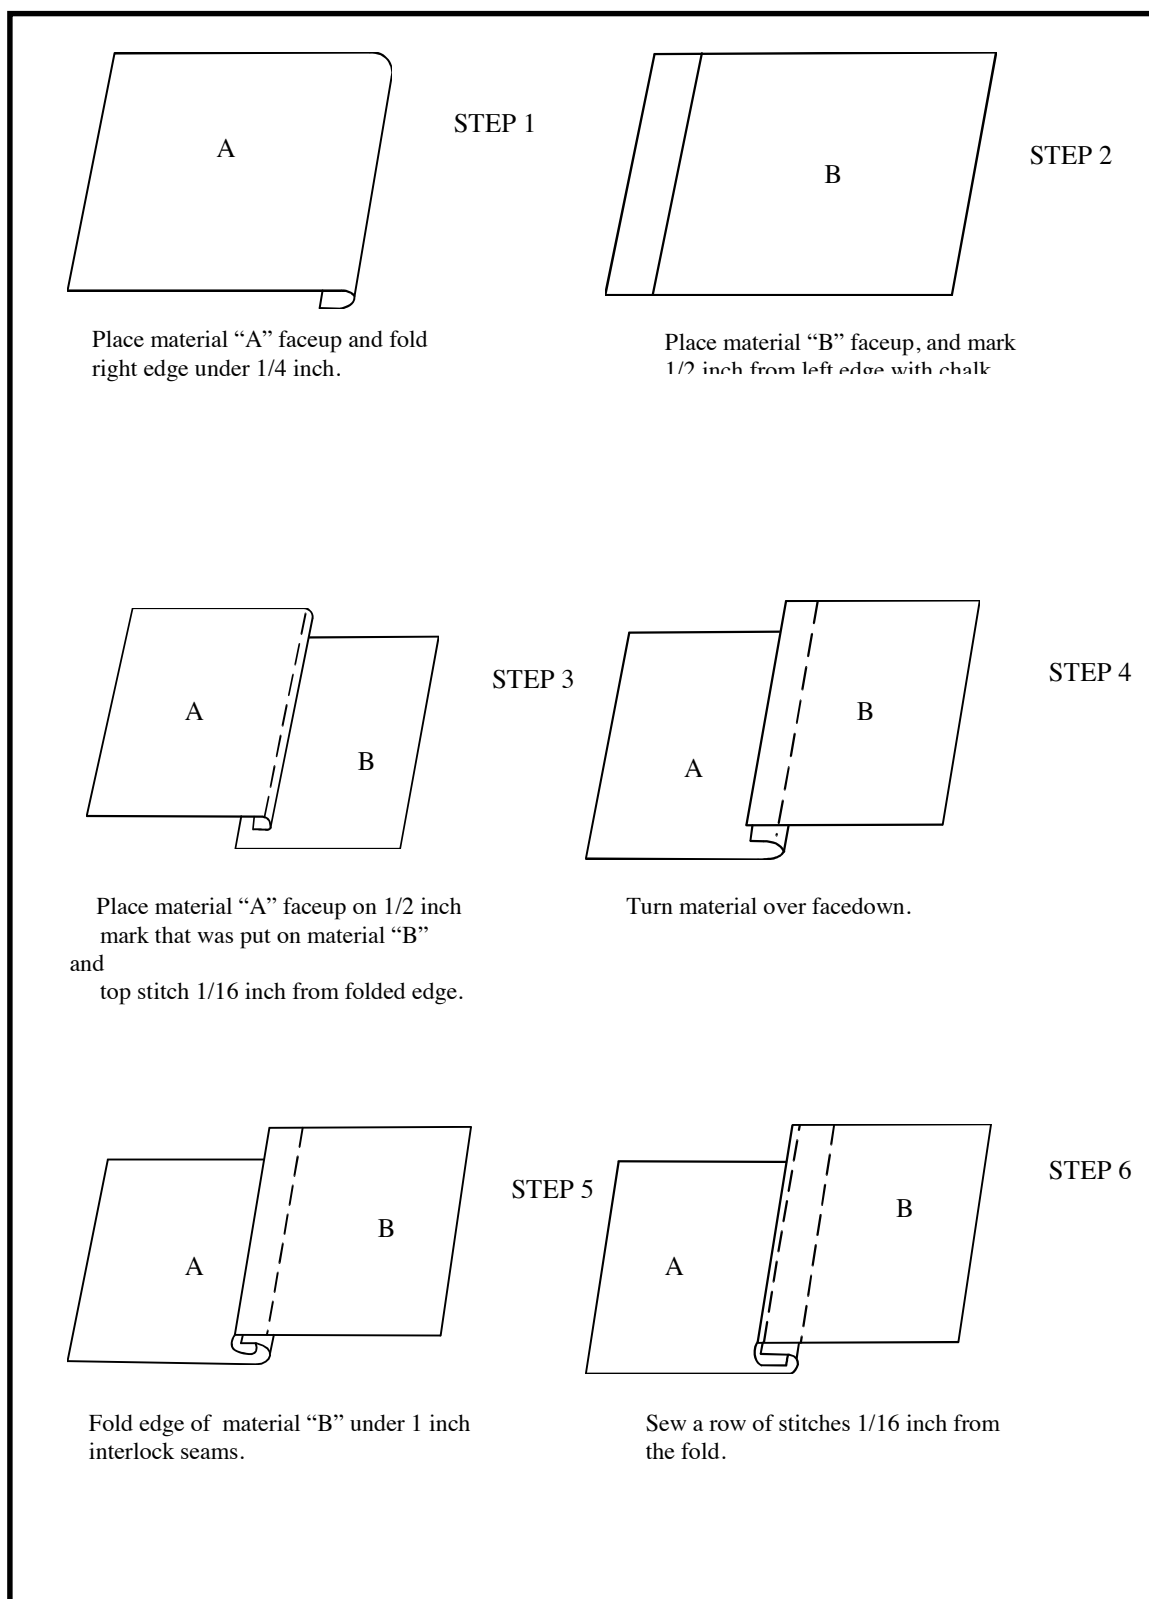

Figure 3-12. Seam type 4
e. Seam Type 4. Seam type 4 (Figure 3-12) is a double-lapped seam. It is an extremely strong seam, because no raw edges are left exposed to unravel and two rows of stitches are used. This seam is used in garments that get a great deal of stress and are washed often. It is used to join the fronts and backs of shirts and field uniforms. When the seam is sewn correctly, it looks the same on the inside and the outside of the garment. To make seam type 4--
- (1) Cut an 8- by 8-inch piece of material into two pieces 4 inches by 8 inches.
- (2) Place the two pieces of the material faceup and side by side.
- (3) Mark the piece of the material on the left, 1/4 inch from the right edge (8- inch length).